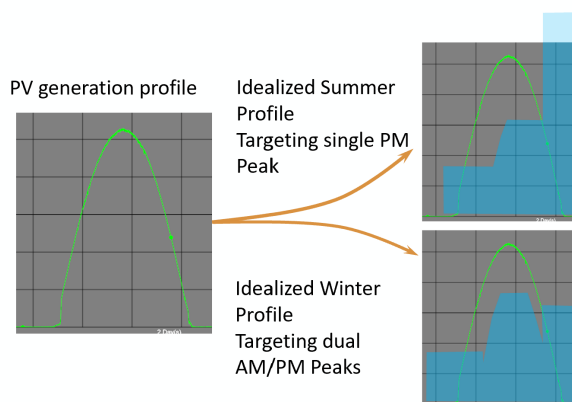

Figure 1. Combining PV plan with battery storage with idealized PV generation.
A schematic for combining a photovoltaic plant (PV) with battery storage for a utility operation is shown in Figure 1. The goal is to store excess energy from renewables to achieve firm (reliable) energy output at a later time. The stored energy from PV output (the area under the green curve) can be used to provide firm energy output in the morning and evening (blue shaded rectangles). The goal is a perfectly level stored-energy curve. This would indicate a “firm dispatchable resource” meaning that the energy available meets specified criteria and will be reliably available to be dispatched to the grid when needed.
For this competition, teams will be challenged to use a Fuel Cell plus appropriate medium (water, hydrogen) INSTEAD of battery storage. Additionally, teams will be challenged to design and implement additional circuits and/or algorithms to make the energy output from a combination of PV+Fuel Cell as “flat” as possible, similar to Figures 1 and 2.